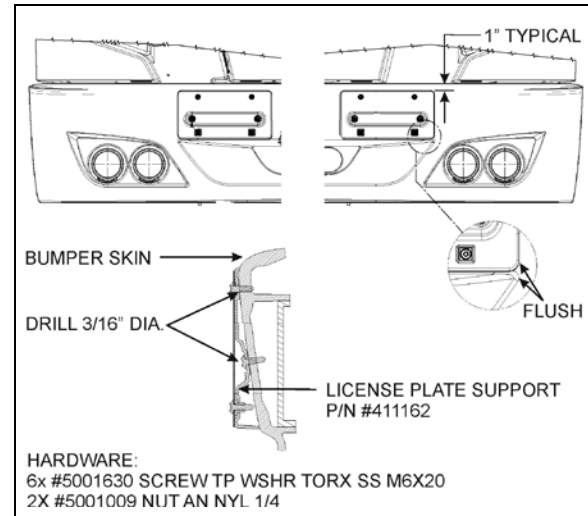

FIGURE 20: LICENSE PLATE SUPPORTS
5. To adjust the male dovetail on L.H. side of the door, remove the two screws and loosen the two bolts. Slide the male dovetail toward the interior and loosely tighten the two bolts. Close the door slowly but firmly, then slowly open it and tighten the two bolts. Attach dovetail to the door with screws. See figure 20.